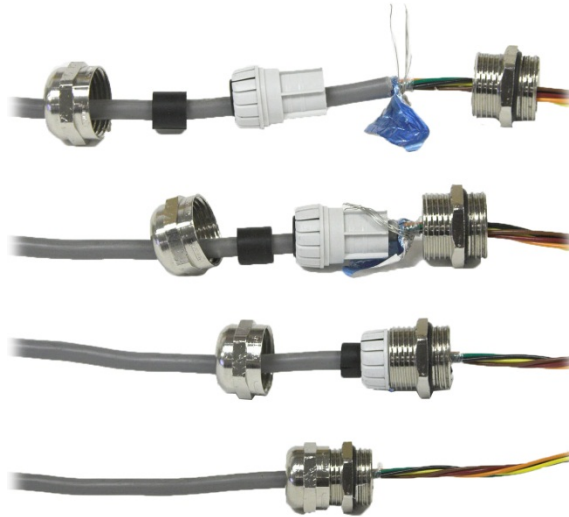

Figure 2-23: Cable Shield Grounding
- Cable shielding should be grounded to the IND570's enclosure by spreading the shield wires as shown at the top of Figure 2-23, then folding them back over the plastic component of the cable gland before pressing it into the threaded body.